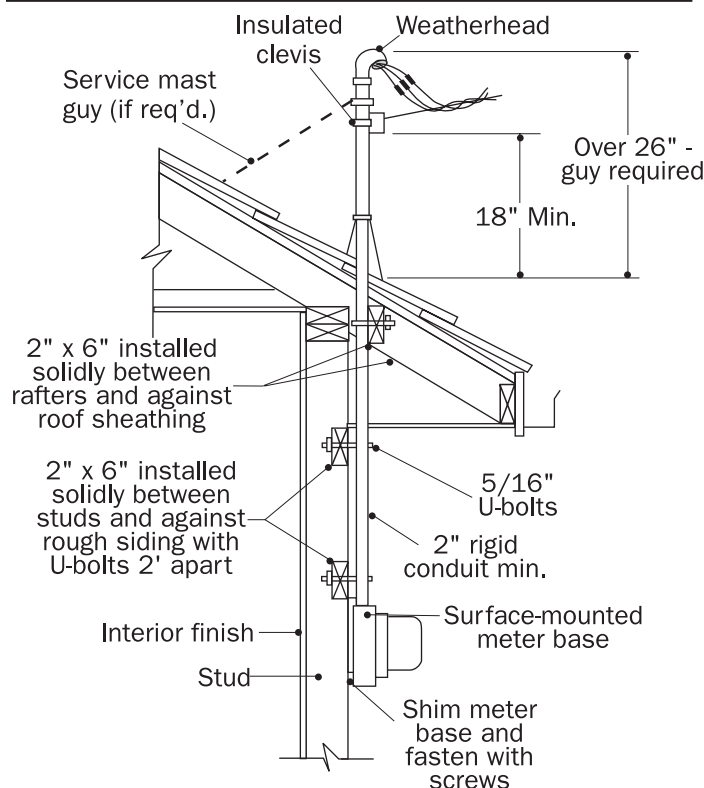

Figure E-5.
See Figure E-5 for an example of a service mast guy.
- Surface mounted (see Figure E-5)